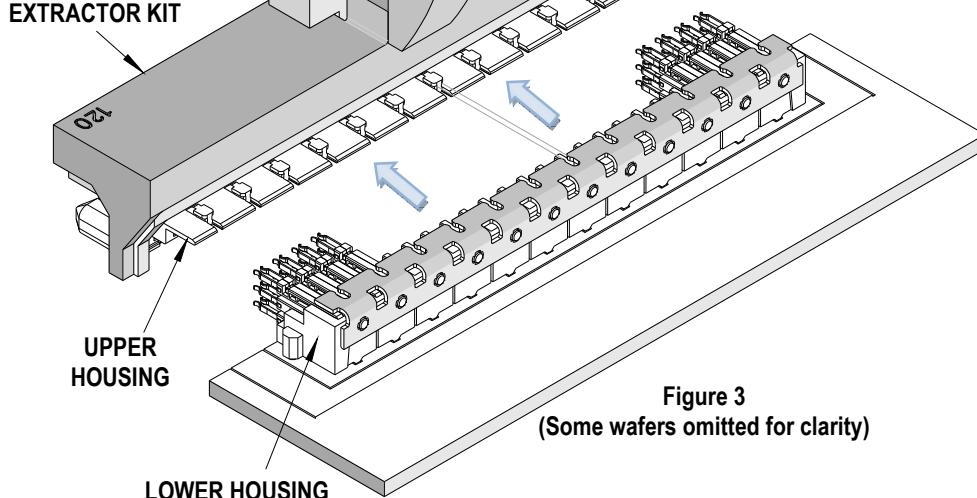

Figure 3
2. While applying pressure to the pliers handles, rock back and forth until the upper housing is pulled straight out of the lower housing. See Figure 3.